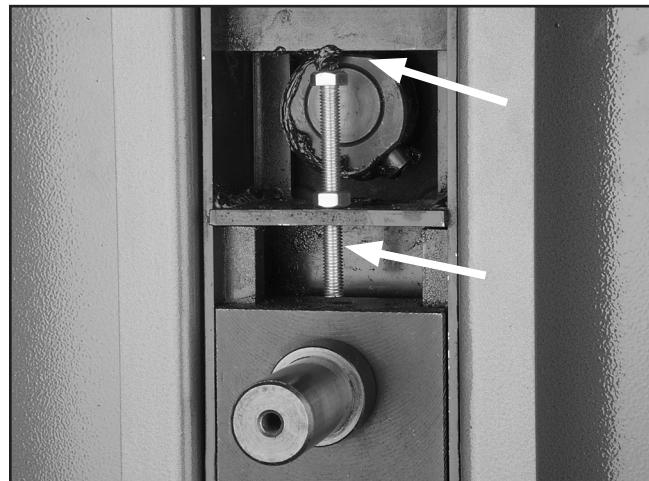

Figure 58. Tension adjustment assembly locations (top wheel removed for clarity).
4. Apply a thin coat of grease to the tension adjustment assembly and tension lever cam (**Figure 58**).